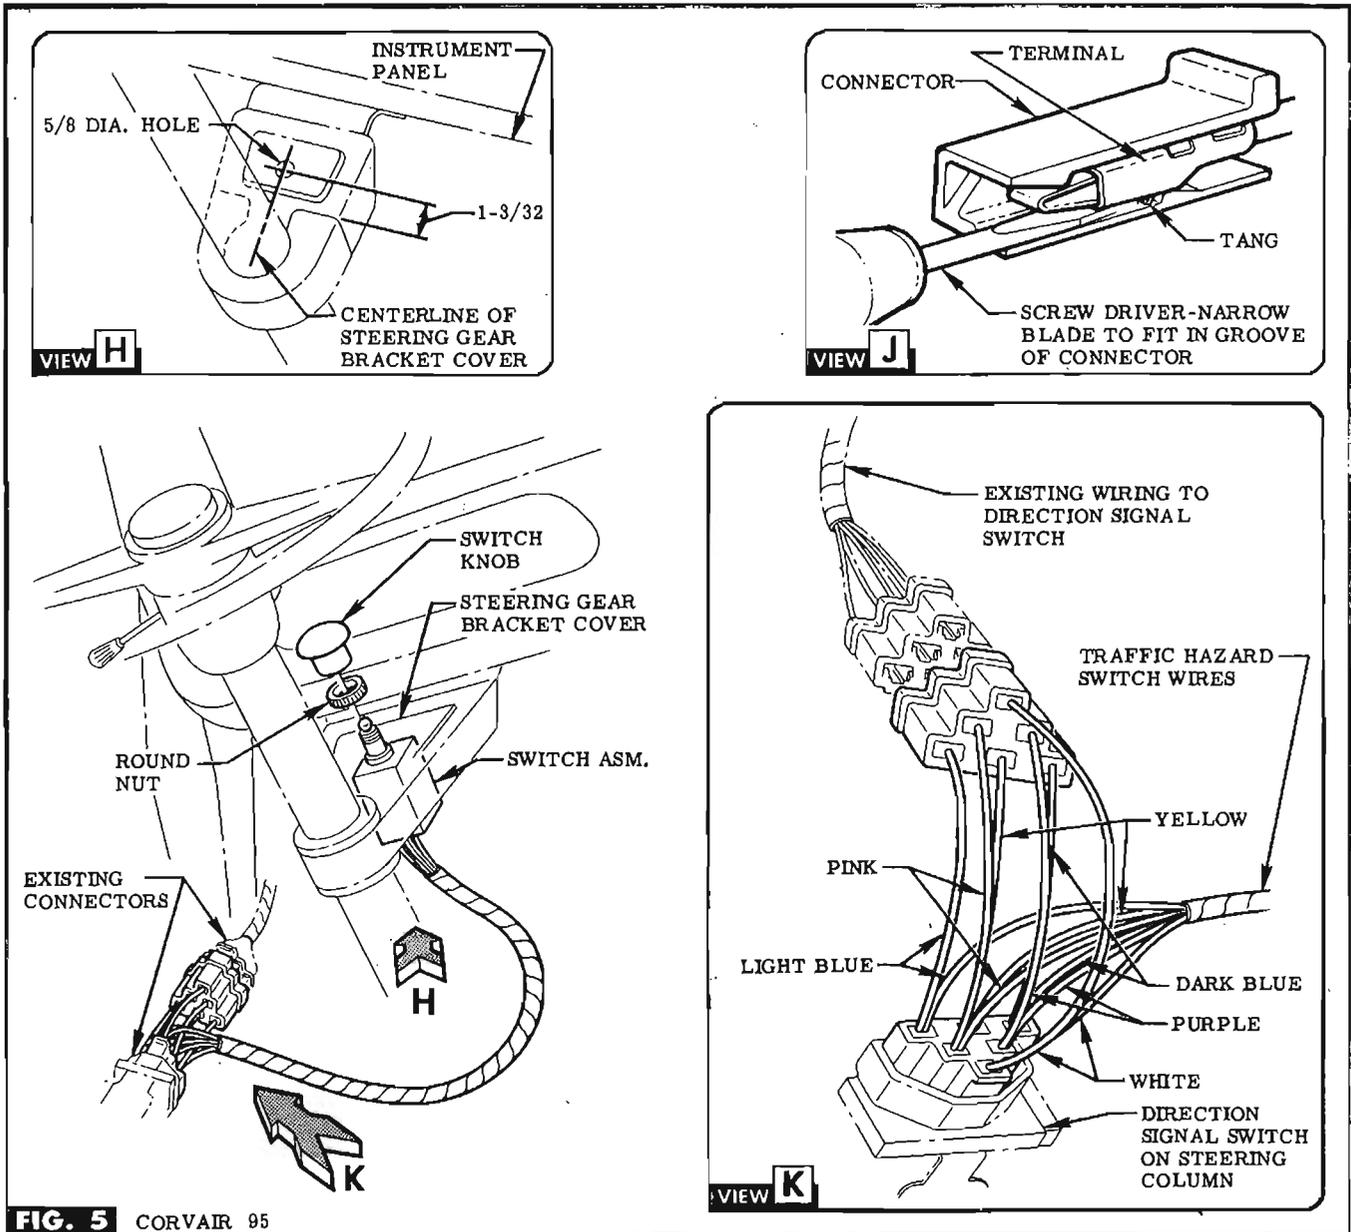

FIG. 5 CORVAIR 95
STEP 3 REMOVE & DISCARD ATTACHING BRACKET FROM SWITCH. INSTALL SWITCH WITH REMAINING PARTS. SEE FIG. 5.